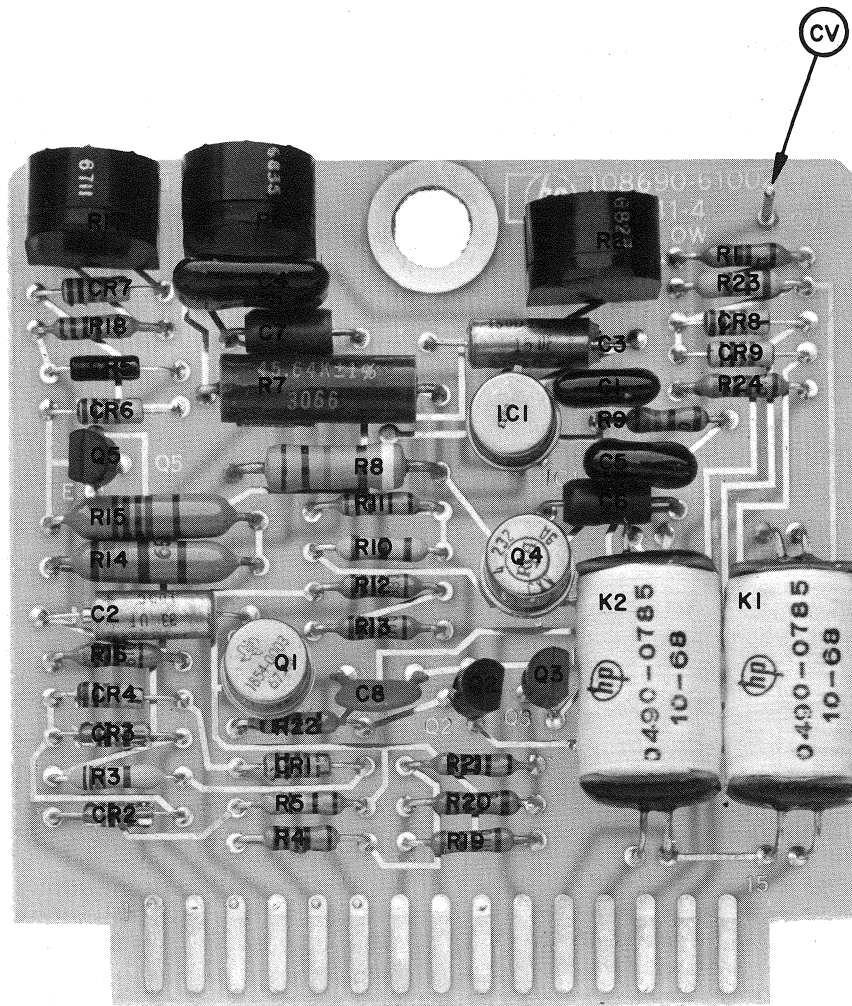

Figure 6. Analog Assembly A21 Component Identification
Three potentiometer adjustments are required to calibrate the Digital Frequency Controller. All three potentiometers are located on Assembly A21 as shown on Figure 6. To calibrate the controller, disconnect P1 of cable 08542-60053 from the Digital Frequency Controller and proceed as follows:
- b. Using a digital voltmeter (DVM), monitor the D/A Converter output at (CV) (see Figure 6).